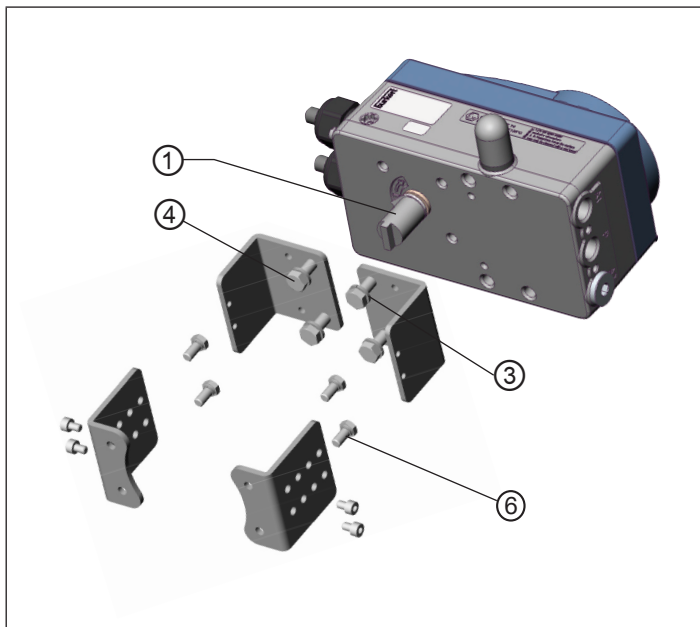

Fig. 14: Attaching assembly bridge (schematic representation)
- Attach the assembly bridge to the positioner using four hexagon bolts ③ and spring lock washers ④ (see "Fig. 14").